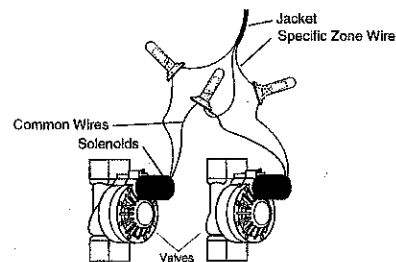

Figure 19: Wiring Valves
- ◆ Each valve has two wires. One wire is to be connected as the common. The common wires for all the valves can be connected together to one common wire going to the timer. The other valve wire is to be connected to the specific station wire that will control that valve [See Figure 19].